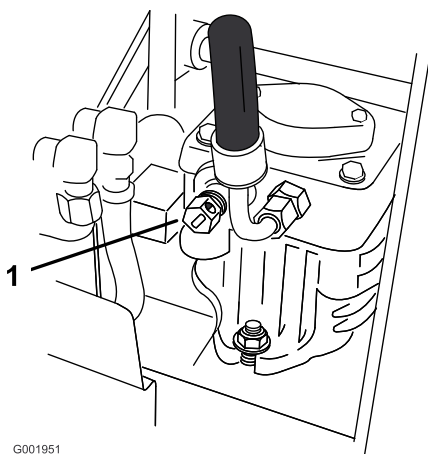

Figure 25
- Open the by-pass valve on both pumps by turning them counter clockwise 1 to 2 turns. This allows hydraulic fluid to by-pass the pumps and the wheels to turn (Figure 25).